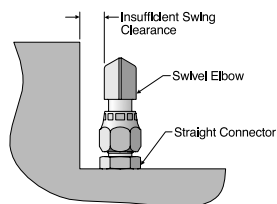
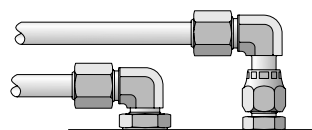

Fig. T59 — Swivel nut fitting used with straight connector in tight space
Fig. T60 — Swivel end fitting with straight connector provides clearance above regular elbow
2. Swivel nut fitting should be used with a straight connector to allow for connections in tight spaces, where an elbow or tee fitting cannot be fully rotated (see Fig. T59).
This same combination of fittings, shown in Fig. T59, can also be used to stack tube lines or provide clearance for ports that are relatively close and within the same plane (see Fig. T60).